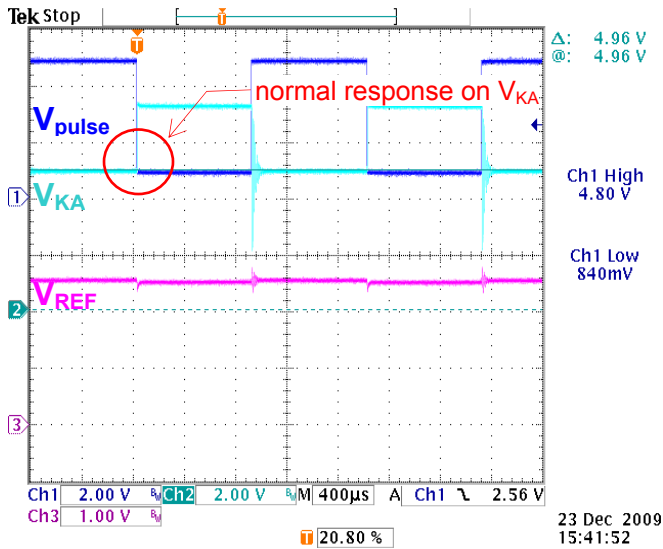

Figure 6: $R1/R2=15K/12K$
- 3.3.2 Reduce feedback resistors R1/R2 from 30k/20k to 15k/12k (Figure 6), can similarly reduce voltage swing coupled to V_{ref} .